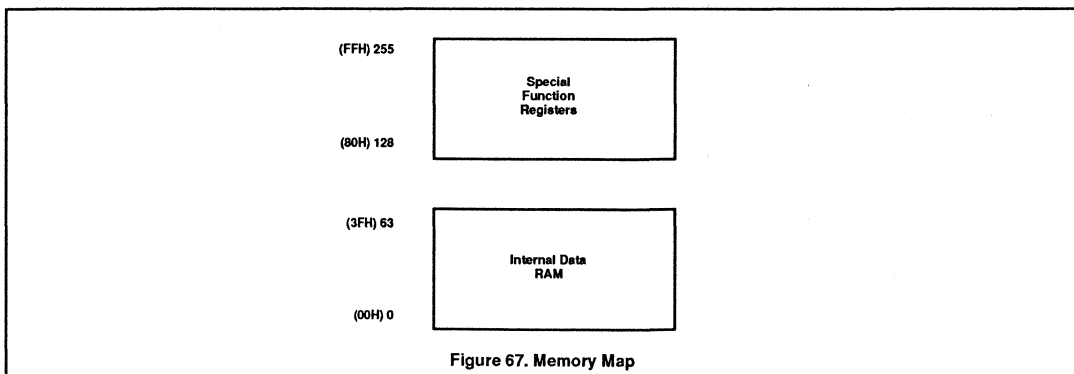

Figure 67. Memory Map
The central processing unit (CPU) manipulates operands in two address spaces as shown in Figure 67. The part's internal memory space consists of 2k bytes of program memory, and 64 bytes of data RAM overlapped with the 128-byte special function register area. The differences from the 80C51 are in RAM size (64 bytes vs. 128 bytes), in external RAM access (not available on the 83C751), in internal ROM size (2k bytes vs. 4k bytes), and in external program memory expansion (not available on the 83C751). The 128-byte special function register (SFR) space is accessed as on the 80C51 with some of the registers having been changed to reflect changes in the 83C751 peripheral functions. The stack may be located anywhere in internal RAM by loading the 8-bit stack pointer (SP). It should be noted that stack depth is limited to 64 bytes, the amount of available RAM. A reset loads the stack pointer with 07 (which is pre-incremented on a PUSH instruction).